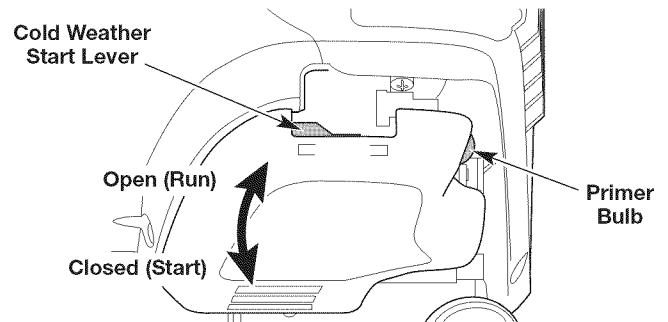

Fig. 10
IF COLD... In cold weather (below 40°F), move the cold weather start lever down to the closed position (Fig. 10). **DO NOT** move the lever down if the temperature is above 40°F.
3. Slowly press and release the primer bulb **10 times** (Fig. 10). If fuel cannot be seen in the primer bulb, press and release the primer bulb until fuel is visible.
IF COLD... In cold weather (below 40°F), move the cold weather start lever back up to the open position (Fig. 10).